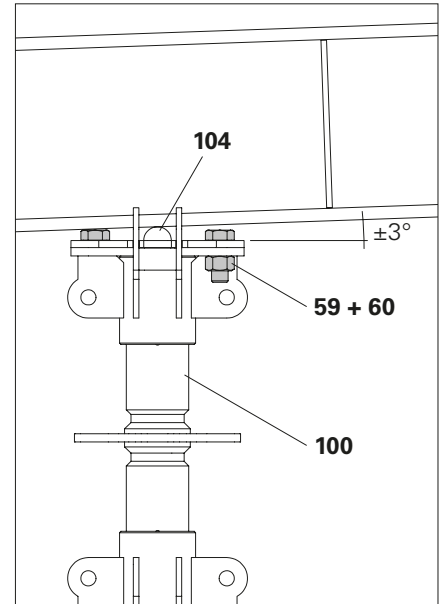

Fig. A1.35a
- Nut ISO 4032 M24-8 (**60**) below the Spindle ATS 360-550 Head Plate. (Fig. A1.35a)